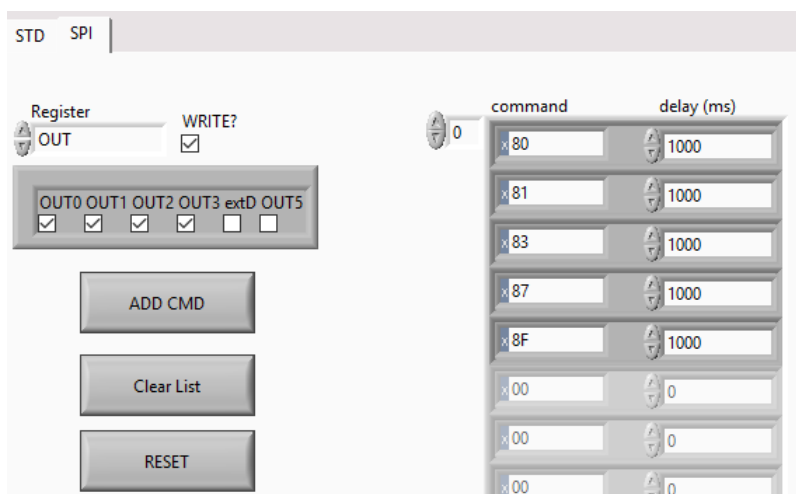

Figure 26 - repeat until all OUTS (OUT0-OUT3) are selected
- Repeat the last three steps until you reach OUT₃ (See Figure 26)